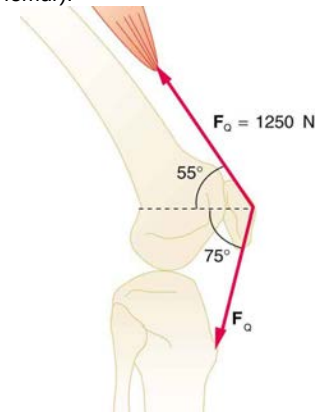

Figure 9.39 The knee joint works like a hinge to bend and straighten the lower leg. It permits a person to sit, stand, and pivot.
28. The upper leg muscle (quadriceps) exerts a force of 1250 N, which is carried by a tendon over the kneecap (the patella) at the angles shown in **Figure 9.39**. Find the direction and magnitude of the force exerted by the kneecap on the upper leg bone (the femur).